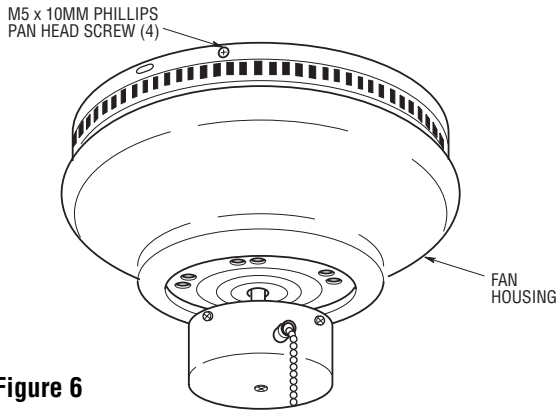

Figure 6
- 1. Align the four holes in the fan housing with the holes in the mounting plate and install four M5 x 10mm Phillips pan head screws with internal tooth washers (supplied) (Figure 6).